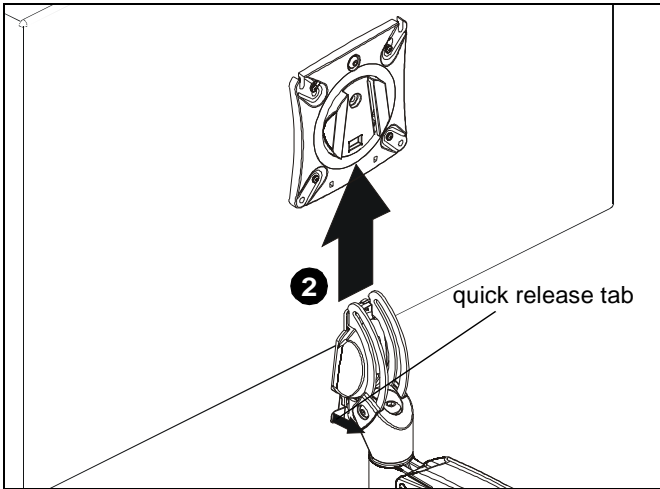

Figure 22
⚠ WARNING: Only remove display from mount when the display can be lifted up from the mount! DO NOT remove display unless the display is in the upright position! (See Figure 22)
2. Remove quick release faceplate from mount by pulling quick release lever and sliding faceplate off mount. (See Figure 22)